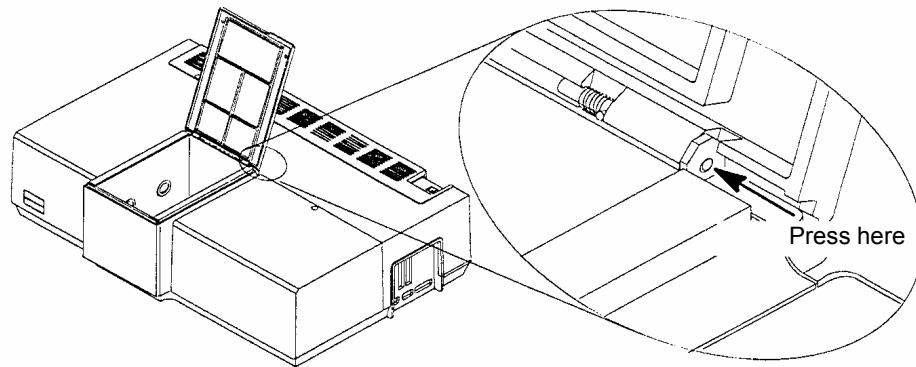

Figure 13 Spring-loaded hinge-pin
2. Press the spring-loaded hinge-pin at the right side using a small screwdriver, as shown in Figure 13.